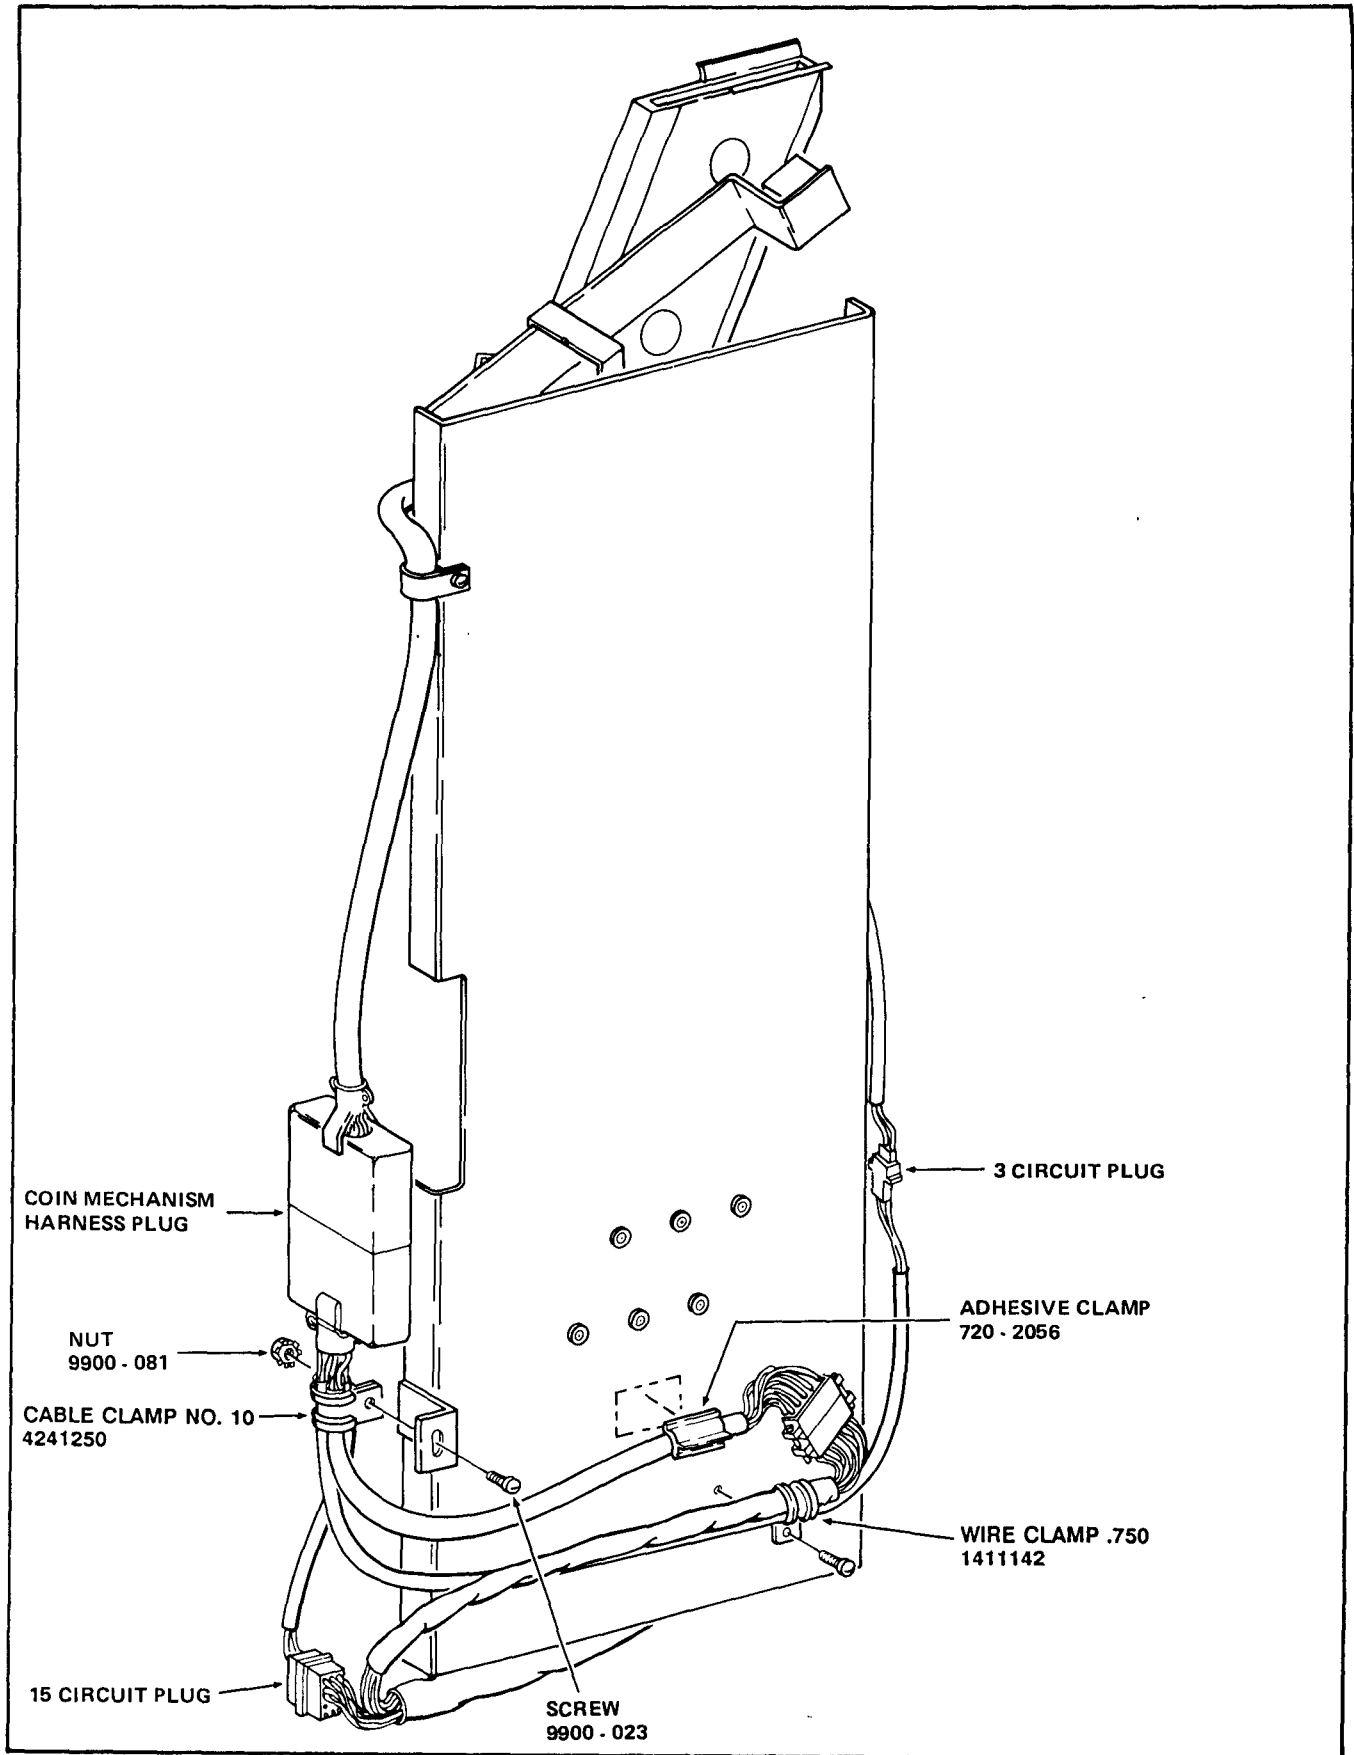

FIGURE 11
25. Connect the plug of the Coin Mechanism Harness to the matching receptacle of the Conversion Harness. See Figure 11.
26. Connect the 15-circuit plug of the Conversion Harness to the 15-circuit receptacle of the Monetary Harness. See Figure 11.
27. Connect the 3-circuit plug of the Conversion Harness to the 3-circuit receptacle of the Monetary Harness as shown in Figure 11.
28. Remove one Screw attaching the Lower Coin Chute to the Mounting Panel. See Figure 11.
29. Place the .750 Wire Clamp included in the kit, part number 141-1142, around the monetary Harness and the Indicator Light cable of the Conversion Harness as shown in Figure 11.
30. Using the Screw removed in Step 28, attach the No.7 Cable Clamp to the Mounting Panel. See Figure 11.
31. Remove the backing from the Adhesive Clamp included in the kit, part number 720-2056, and, placing the clamp around the P/C Connector cable of the Conversion Harness, attach the clamp to the back of the Mounting Panel. See Figure 11.
32. Place the No. 10 Cable Clamp, part number 424-1250, around the Conversion Harness as shown in Figure 11 and attach to the Mounting Panel with the Screw, part number 9900-023, and Nut, part number 9900-081. All parts included in kit.